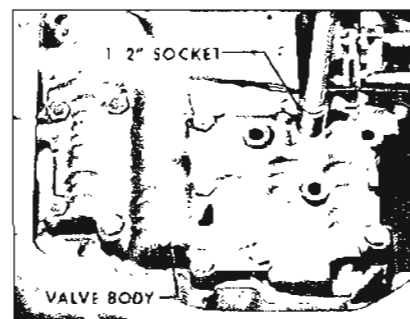

Figure 5-344
5. Install eleven (11) valve body to case retaining bolts. Torque bolts to 8-11 ft. lbs. See Figure 5-344.